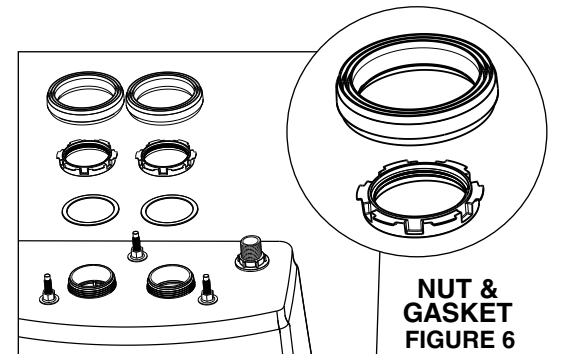

FIGURE 5
- Place friction washer over threads on the bottom of the tank **FIGURE 5**